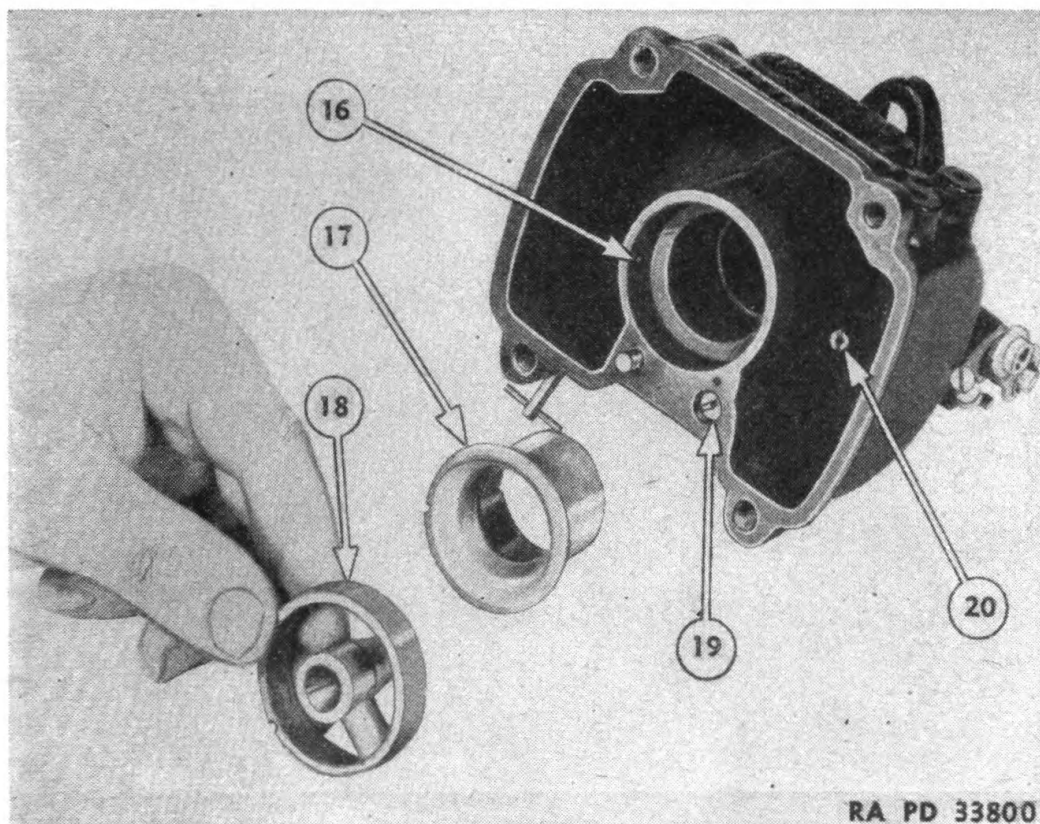
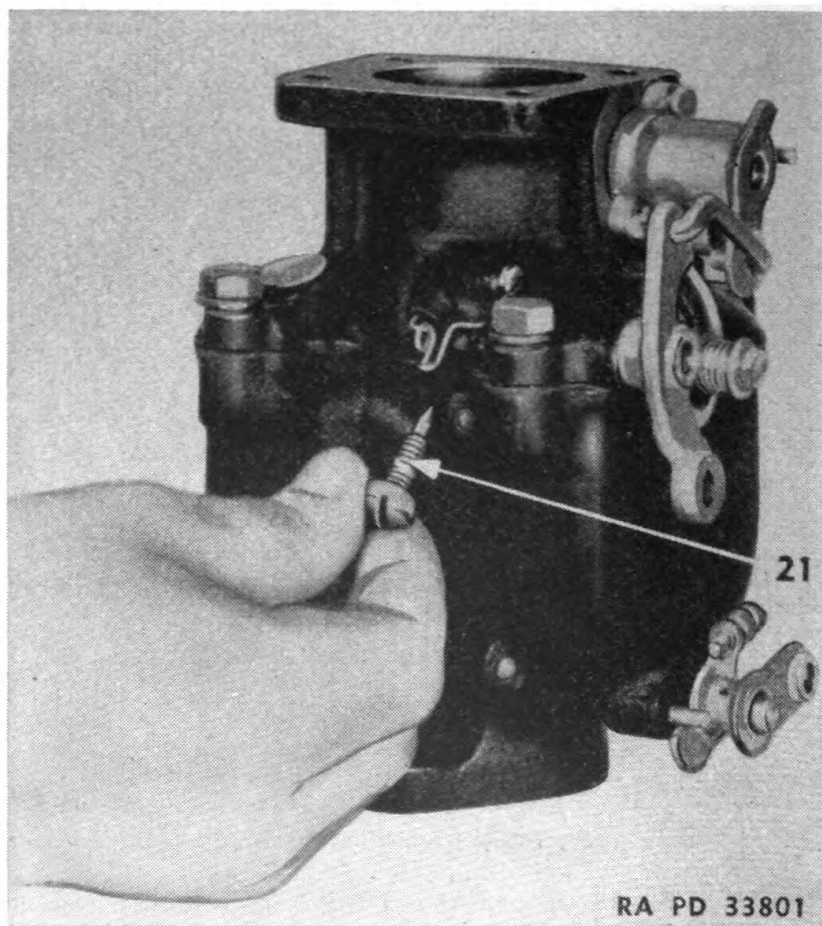

FIGURE 85.—Venturi assembly.
FIGURE 86.—Idle adjustment screw.
b. The compensator jet (20) (fig. 85) which admits the fuel for the idling jet and also for the main jet may be removed with a screw driver.
81. Venturi.—The venturi assemblies (17) and (18) (fig. 85) can be removed by hand. The pin (16) should register with the notches in each venturi.
82. Idling jet.—The idle adjustment screw (21) (fig. 86) regulates the amount of air to be mixed with the fuel at the idling jet. The nonadjustable jet (19) (fig. 85) controls the amount of fuel taken from the compensator well. The fuel and air pass through the priming plug located in the carburetor throat adjacent to the idling position of the throttle shutter.